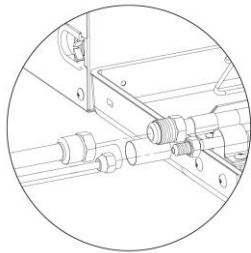

Fig. 16
- (3) Use torque wrench to twist on the flared nut tightly until the wrench gives out a click sound. (Hold the handle of wrench and make it at right angle to the pipe. as in Fig.16)
- (4) Use sponge to wrap the un-insulated connection pipe and joint. Then tie the sponge tightly with plastic tape.
- (5) Connection pipe should be supported by a bearer rather than the unit.
- (6) The bending angle of piping should not be too small; otherwise the piping might have cracks. Please use a pipe bender to bend the pipe.
- (7) When connecting IDU with connection pipe, do not pull the big and small joints of IDU with force in case the capillary tube or other tubes have cracks and cause leakage.